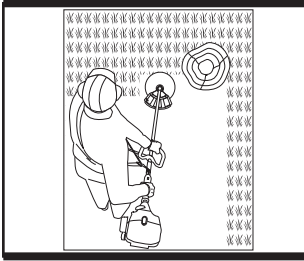

Fig. 15g
12). Pay special attention when performing the work close to trees and bushes. The cutting heads could damage sensitive bark, and damage fence posts. (See Fig. 15g)